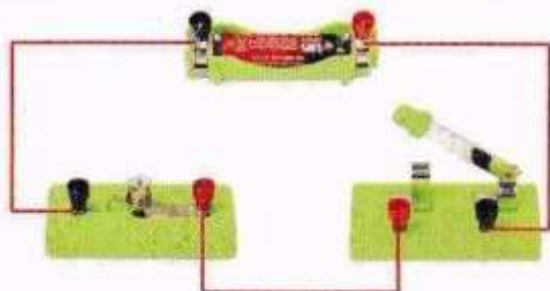
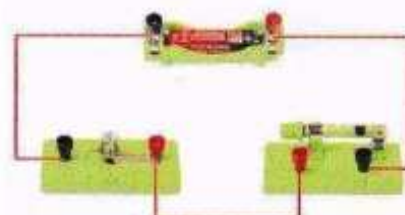

Figure 1-2: Circuit breaker
Figure 1-1
1. As shown in Figure 1-1 and Figure 1-2, form a circuit and close the switch to make the circuit work. Understand what is a path?